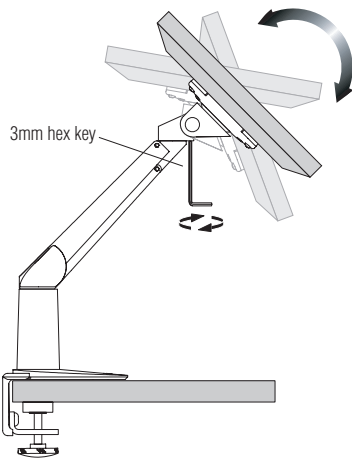

Figure 10
6. Use 3mm hex key to loosen or tighten the tension of the monitor angle adjustment screw as illustrated (Figure 10). When tension is properly calibrated, monitor angle can be adjusted and monitor angle will remain where moved to.